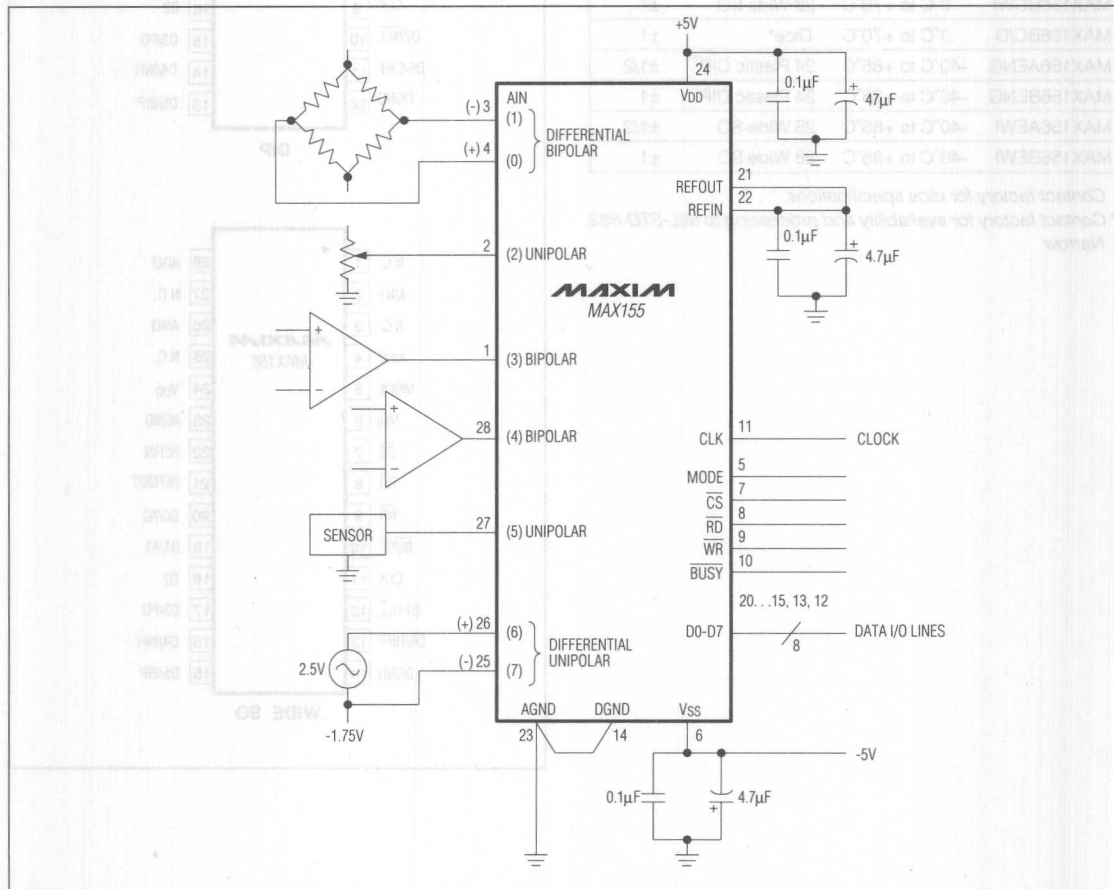

Figure 10. MAX155/MAX156 Typical Operating Circuit
where N is the number of channels converted. This includes one clock cycle of uncertainty. For a single channel and 5MHz clock, the conversion time is $(9 \times 1 \times 2) / 5MHz = 3.6\mu s$. For the MAX155, the maximum conversion time for 8 channels is $(9 \times 8 \times 2) / 5MHz = 28.8\mu s$. In the application example (Figure 10), six conversions are configured, and the conversion time is $(9 \times 6 \times 2) / 5MHz = 21.6\mu s$.
MAX155/MAX156 address and configuration inputs for this example were determined by selecting the desired channel configurations in Tables 2 and 3. Figure 10 illustrates the configuration outlined in Table 5.
3. Data is read from RAM with $\text{INH} = \text{L}$ and consecutive RD strobes. Note that in the 6 channel configurations described in this example (Figure 10), 6 RD pulses access all available data, starting with the differential channel (1,0). Additional RD pulses loop around, accessing the lowest channel data again.